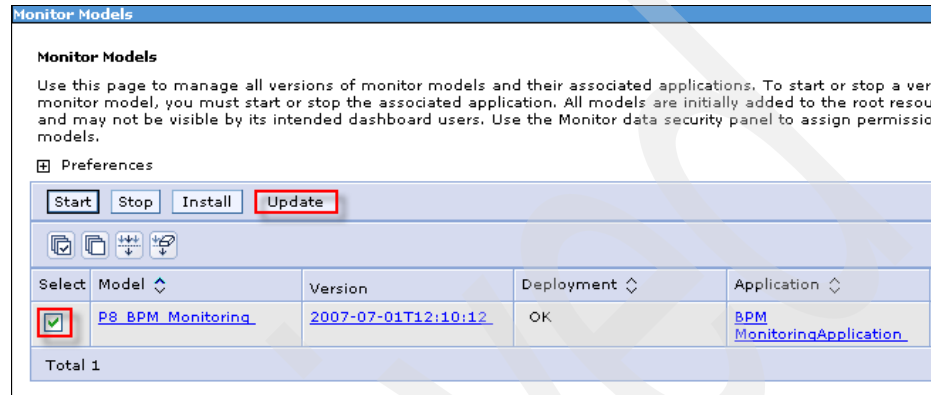

Figure 3-53 Monitor Mode panel
2. In the Monitor Models panel (Figure 3-53), in the Select column, select the model that you want to update. Click **Update**.